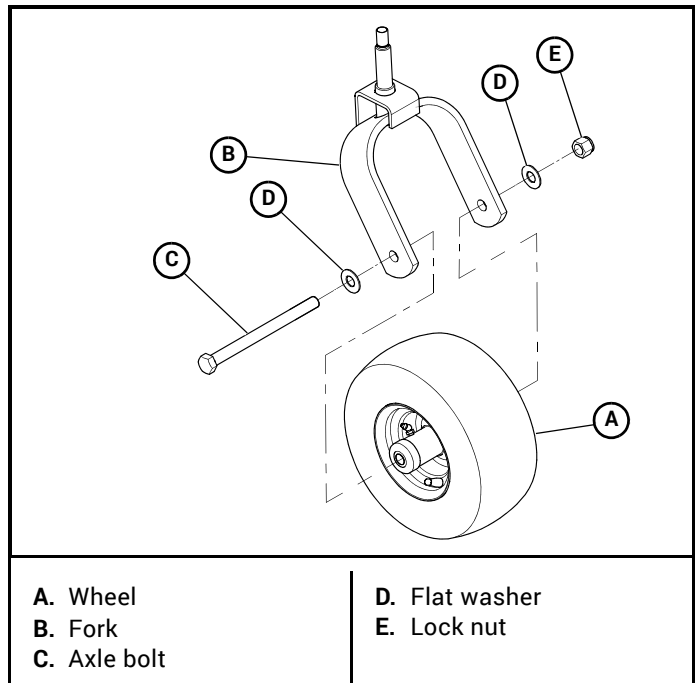

Figure 4-30
- Remove the wheel from the fork by removing the axle bolt, flat washers, and lock nut. Figure 4-30